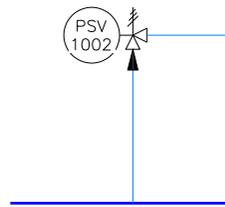

Figure 2-77 Location of the pressure relief valve
9. Place the pressure relief valve on the secondary line of the line connecting the top nozzle of the vessel, as shown in Figure 2-77, and give the required parameter in the **Assign Tag** dialog box.